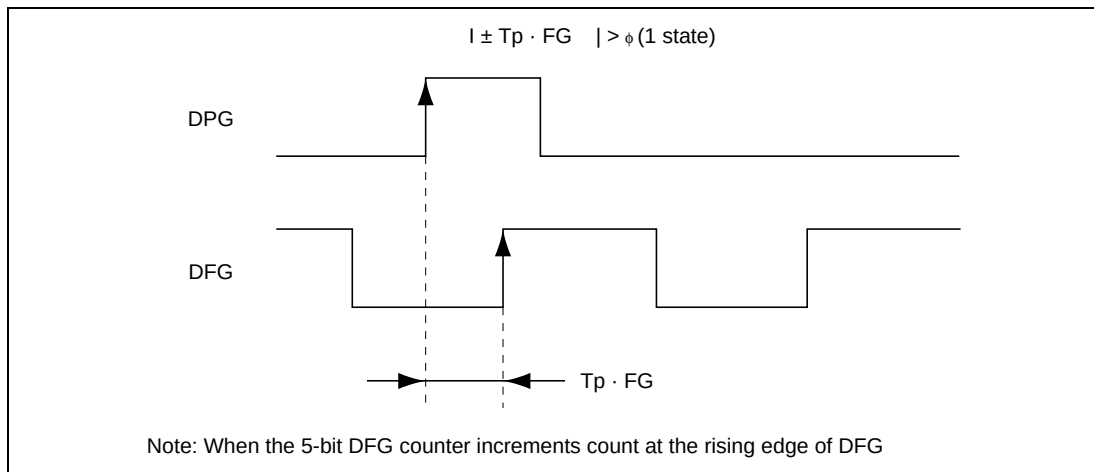

**Figure 26.25 Input Timing of DPG and DFG**
- Input the rising edge of DPG and DFG count edge at different timings. If they are input at the same timing, counting up DFG and clearing the 5-bit DFG counter occur simultaneously. In this case, the latter will take precedence. This leads to the DFG counter lag by 1. Figure 26.25 shows the input timing of DPG and DFG.